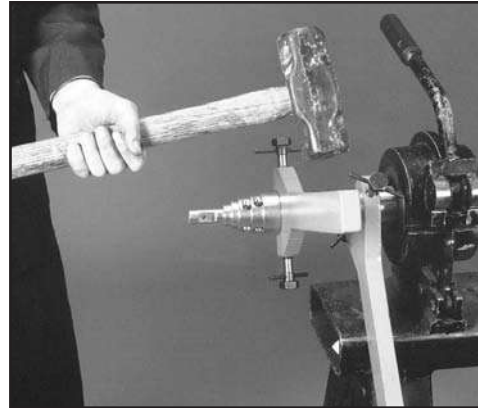

FIG. 35: TIGHTEN HEAD ASSEMBLY WITH BLOWS
20. Re-install the tip assembly and complete tightening with several heavy blows (see Fig. 35).